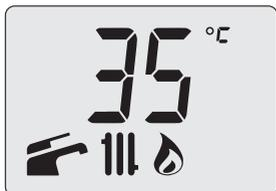

Figure 7.7
- Press 17 (Figure 7.2) to exit "programming mode" (Figure 7.7).